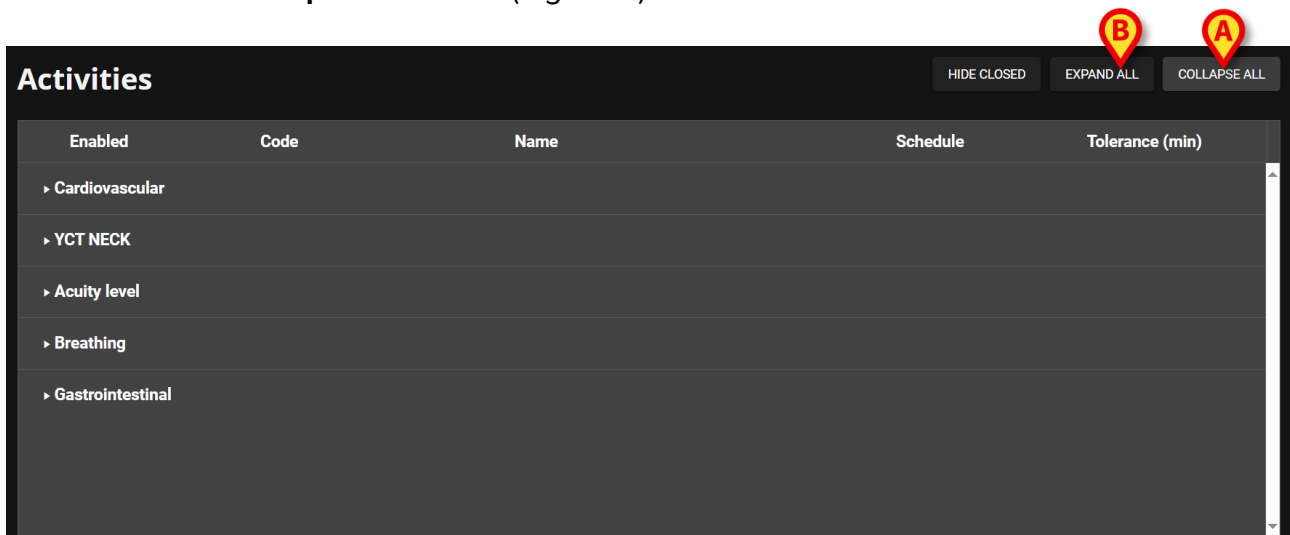

Fig 40
To collapse all the clinical areas/problems at once and display only the list of clinical areas, as in Fig 40:
- Click the **Collapse All** button (Fig 40 **A**).
- Click the **Expand All** button (Fig 40 **B**).